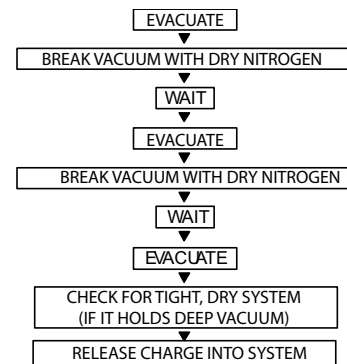

Fig. 26 — Triple Evacuation Method
The triple evacuation method should be used when the vacuum pump is not capable of pumping down to 500 microns and system does not contain any liquid water. Refer to Fig. 26 and proceed as follows:
5. Repeat this procedure as indicated in Fig. 26. System will then be free of any contaminants and water vapor.